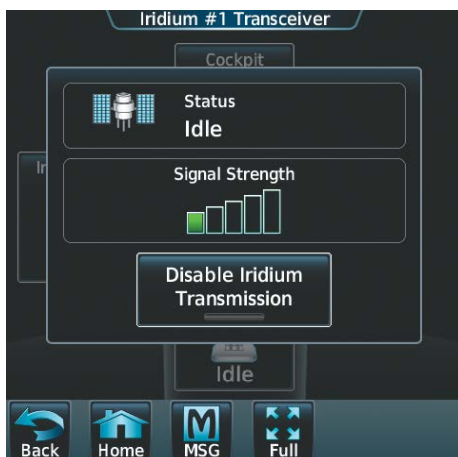

Figure 8-55 Iridium Transceiver Enabled
- 2) Touch the **Iridium #1** Button to display the Iridium #1 Transceiver Screen, as shown in Figure 8-55.